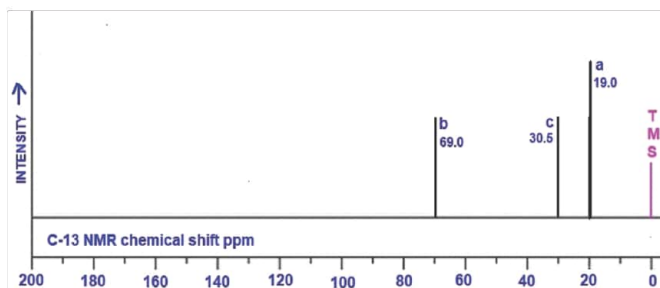

Figure 30.8 ^{13}C NMR spectrum of an unknown molecule
If the formula of a compound is $C_4H_{10}O$ and its ^{13}C NMR spectrum shows 3 peaks (**Figure 30.8**). It means that 3 different carbon environments are present in the molecule. The three possible molecules for this formula are butan-1-ol, butan-2-ol and 2-methoxypropane. The structure of the unknown compound cannot be butan-1-ol or butan-2-ol (which are expected to show 4 peaks). It must be a structure with 3 chemical environments; 2-methoxypropane which has 3 peaks.
- Using the spectrum given in **Figure 30.8**, explain why this spectrum does not match with the structures of these two molecules.